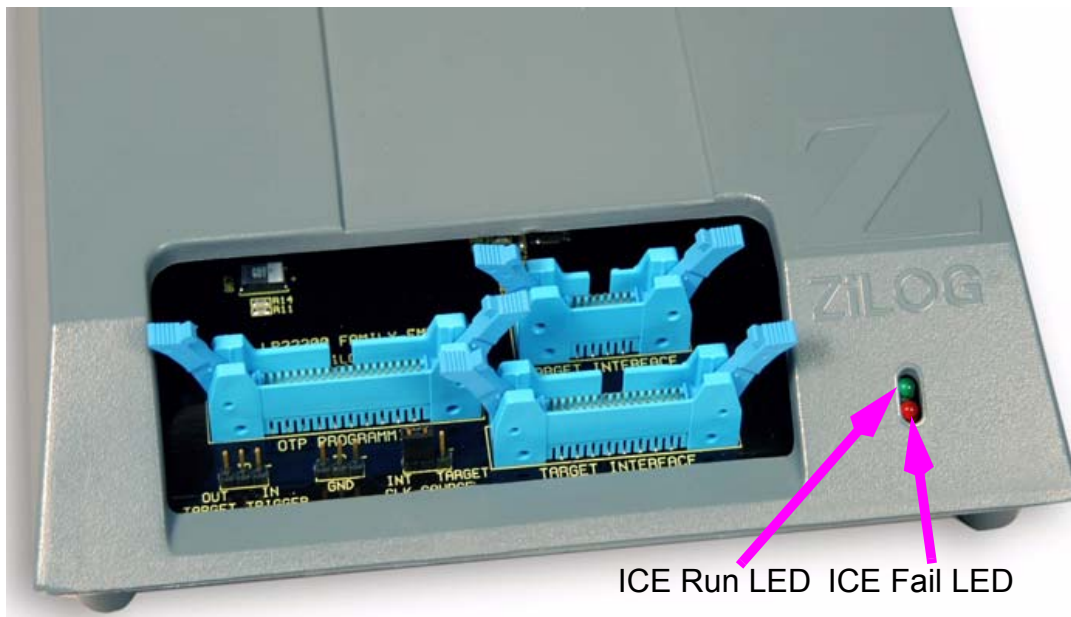

Figure 5. Z8 GP ICE Front-Panel
3. Connect a 5VDC power supply to the Z8 GP ICE. The 3.3VDC should illuminate (see Figure 3). If the 3.3VDC LED fails to illuminate or the ICE Fail LED illuminates (see Figure 5), there is a problem with the unit. Contact ZiLOG support at <http://www.zilog.com> for a replacement unit.